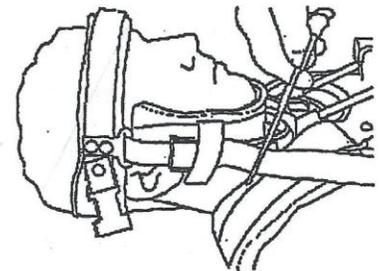

Figure 5: Adjusting the A/P of the forehead band.
7. Adjust the chin support tether loops so they are snug. Excess strap should be cut off (FIGURE 5).